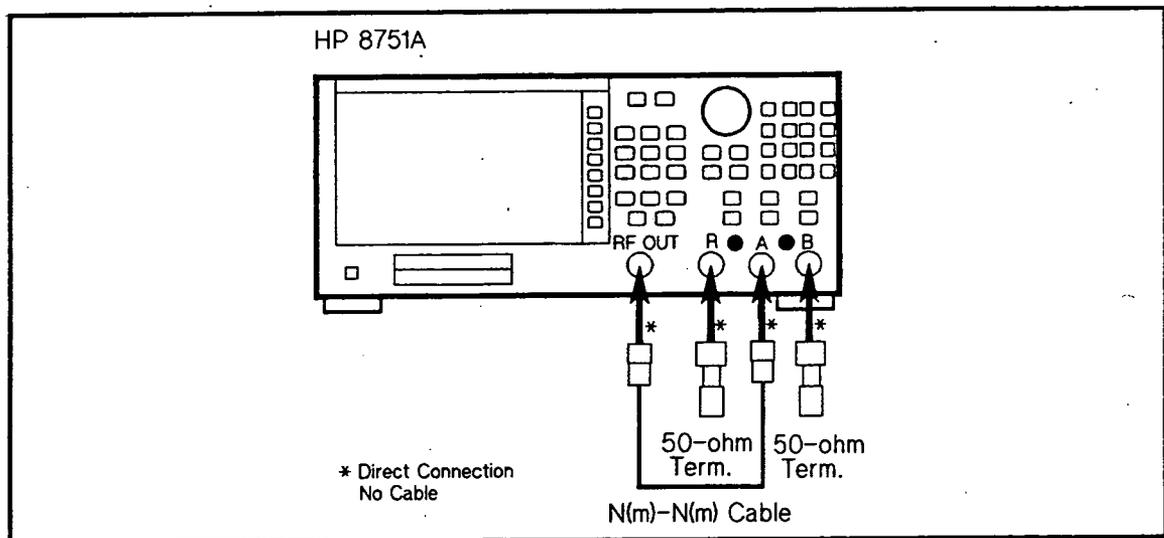

Figure 1-2. Crosstalk Test Setup 2
- b. Connect the equipment as shown in Figure 1-2.